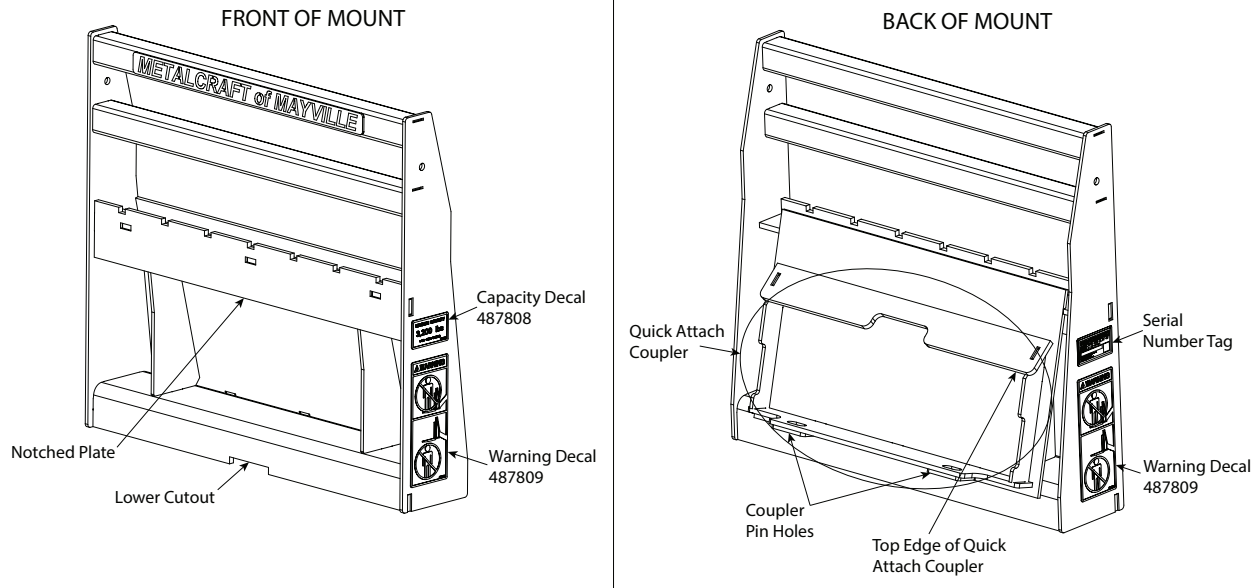
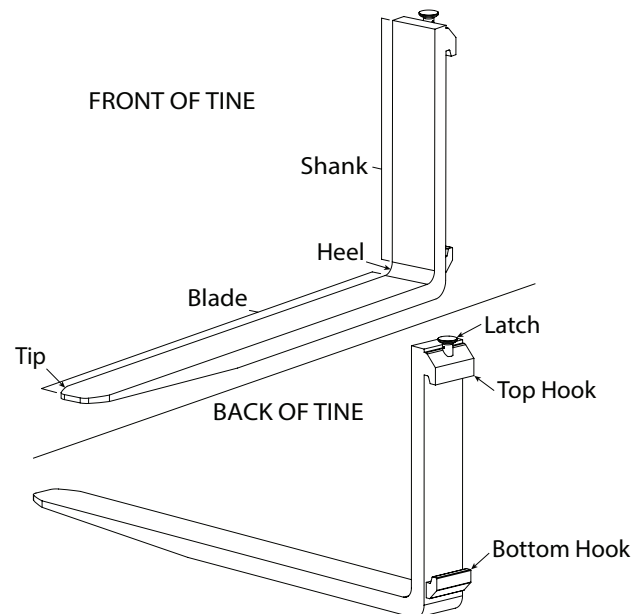

Figure 4-1. Fork Mount Key Components
Figure 4-2. Fork Tine Key Components
1. **Fork Mount (Figure 4-1).** The quick attach coupler on the fork mount is used to mount the attachment to the loader. The notched plate hooks the forks into place. See Section 4.3 for fork mount mounting and dismounting instructions.
2. **Fork Tine (Figure 4-2).** The fork tine latch is used to lock the fork tines into place on the fork mount notched plate. See Section 4.4 for fork tine installation and adjustment instructions.
Read the loader's operator's manual for more details on mounting and dismounting attachments. Refer to Figure 4-1 for fork mount terminology.
Refer to Figure 4-1 and Figure 4-2 for fork mount and tine terminology.